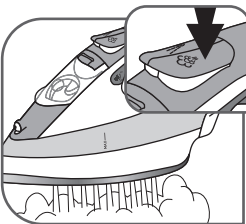
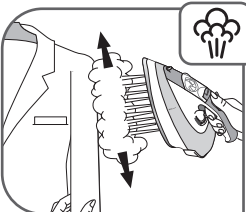

Fig. 12
Fig. 15
- For the TURBO function, set the thermostat control to "MAX" or "...". Press the TURBO button from time to time – fig.12.
- Hang the garment on a hanger and hold the fabric slightly taut with one hand. The steam is very hot, so you should always do this with the garment on a hanger – never iron clothes which someone is wearing – fig.15.
- Press the turbo button in pulses – fig.12 and move the iron from the top to the bottom – fig.15.